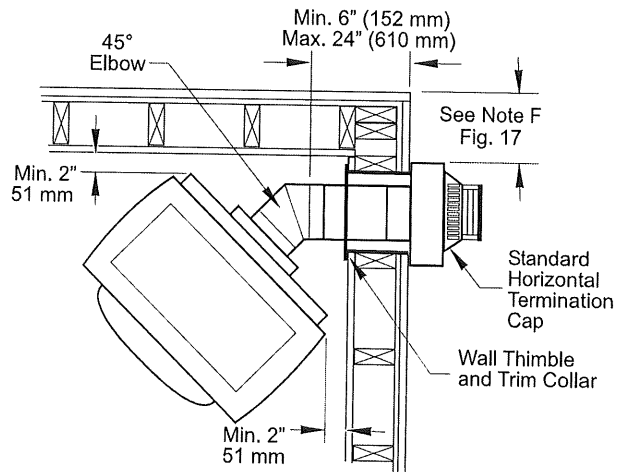

Figure 12. Corner Installation, Horizontal Termination directly off rear. **Maximum Horizontal run is 2 ft. (610 mm).**
- **Corner Installation:** Max. Horizontal Run is 2 ft. (610 mm). See Fig. 12.